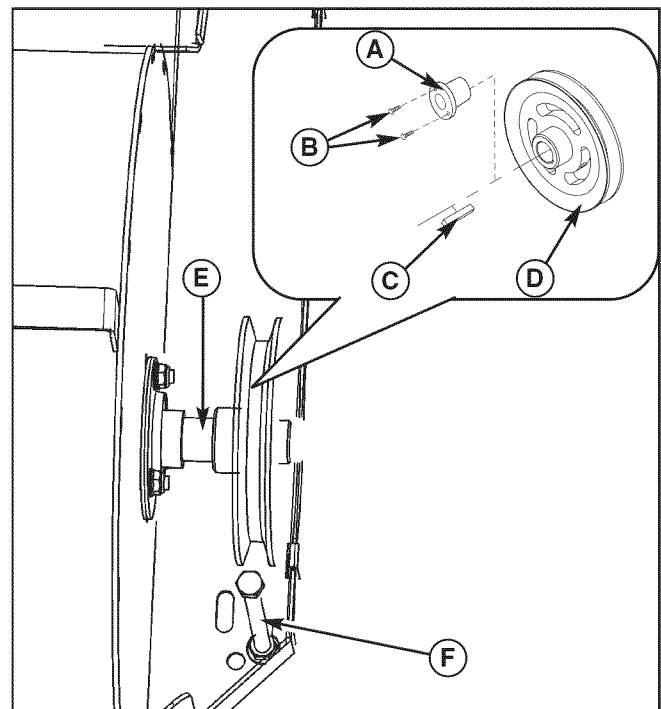

Figure 12. Install Impeller Drive Pulley (IS4500Z Models Only)
9. Loosely install the tapered hub (A, Figure 12) into the blower pulley (D). Install the blower pulley onto the impeller shaft (E) and slide the blower pulley in towards the blower assembly.
10. Position the new blower drive belt (B, Figure 12) in the blower drive pulley.
11. Position the blower pulley (D, Figure 12) so it is center with the belt keeper bolt (F). Install the 1/4" X 1-1/2" long key (C) into the blower pulley (D).
12. Install the two (2) 1/4-20 X 1" bolts (B) into the tapered hub (A) and tighten evenly. Torque the 1/4" bolts to 8 ft. lbs. (10,9 Nm).